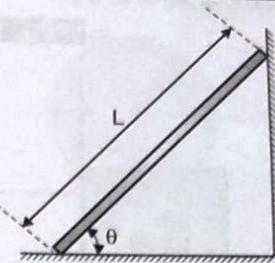

Fig. Q. 11
- Q. 11** The uniform and rod having a weight 'W' and length 'L' is supported at its ends A and B as shown in Fig. Q. 11. Determine the greatest angle ' θ ' so that the rod does not slip. Take $\mu_s = 0.2$. **SPPU : Dec 15, 6 Marks**